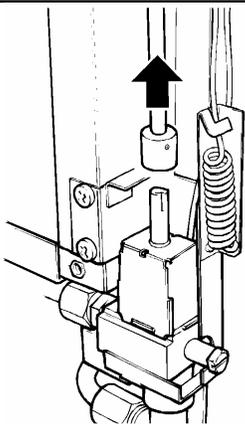

Fig. 32 Thermostat shaft disconnection
- 7.2.6 Disconnect the thermostat shaft from the thermostat (Fig. 32).